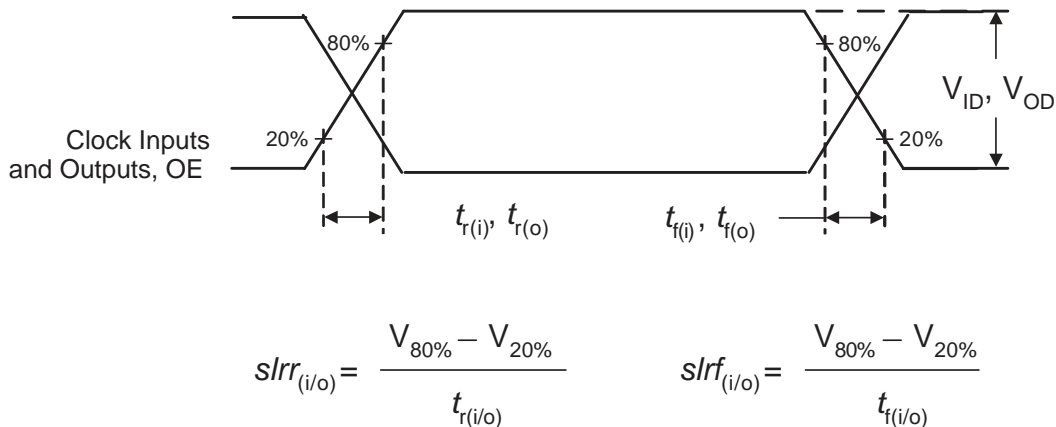

Figure 9. Input and Output Slew Rates
2. V_{ID} is the magnitude of the difference between the input level on CK and the input level on \overline{CK} , see Figure 9 for definition. The CK and \overline{CK} V_{IH} and V_{IL} limits define the dc low and high levels for the logic detect state.
- NOTES: 1. V_{OD} is the magnitude of the difference between the true and complimentary outputs. See Figure 9 for a definition.